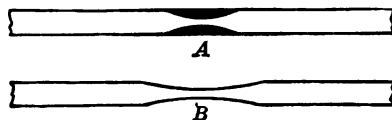

FIG. 13
*d. To draw out a glass tube to a small bore.* Heat a portion of the tube in the Bunsen flame until the walls of the heated portion thicken and the size of the bore diminishes (Fig. 13, A). The tube must be constantly rotated to prevent the softened portion from sagging. Now quickly remove the tube from the flame, and, holding it in a vertical position, gently pull the ends apart until the bore is of the desired size (Fig. 13, B). A glass jet may be formed by cutting the tube at B, and rounding the edges in a flame.